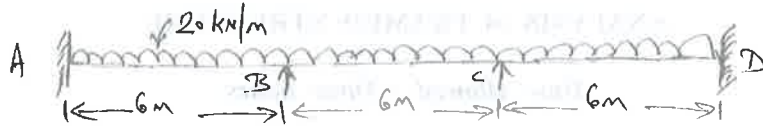

Fig. 2
- (c) Analyse the continuous beam loaded as shown in fig. 2 by the slope deflection method. Sketch the B.M. and S.F. diagrams. 14